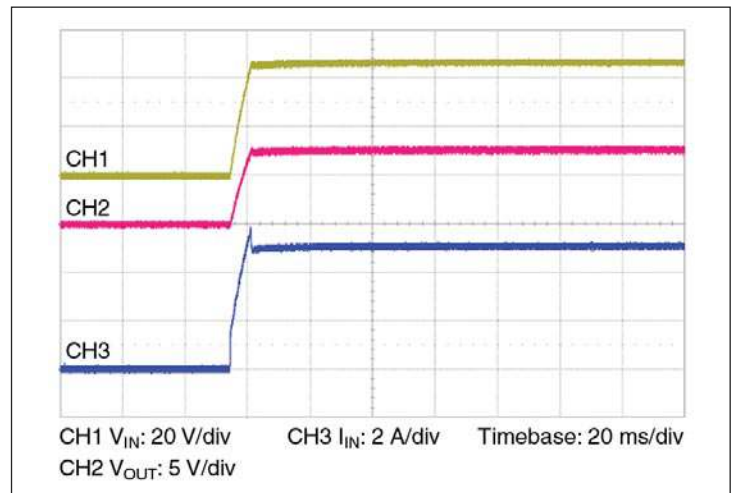

Figure 10 — Start up from application of  $V_{IN}$ ; VC pre-applied  $C_{OUT} = 2300 \mu F$
- **Normal operation (VC applied prior to VIN):** In this case the controller is active prior to ramping the input. When the input voltage is applied, the VTM module output voltage will track the input (See Figure 10). The inrush current is determined by the input voltage rate of rise and output capacitance. If the VC voltage is removed prior to the input reaching 26 V, the VTM may shut down.